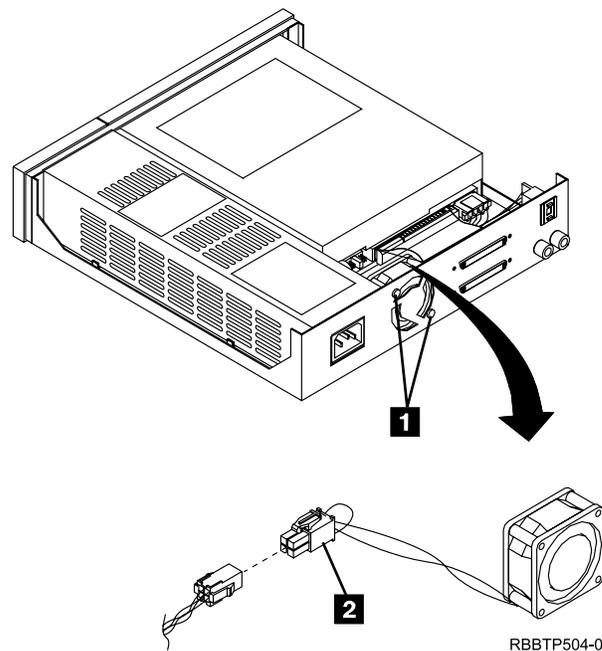

Figure 9. Removing the Cooling Fan
2. Disconnect the power supply connector (J2) (**2** in Figure 9) between the power supply and the cooling fan.